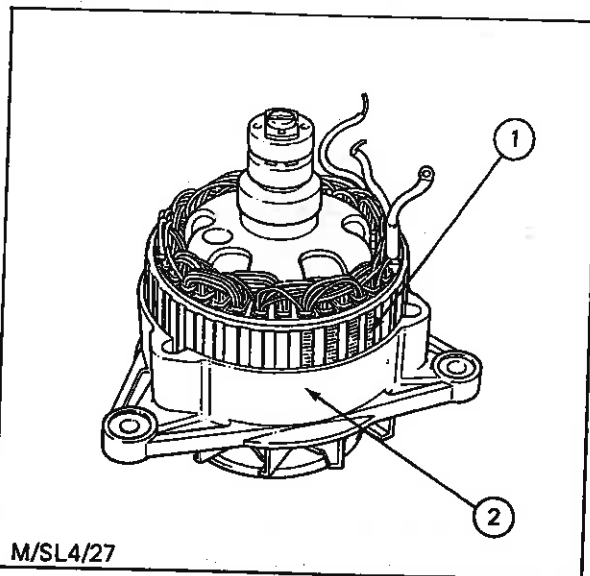

Fig. 43 - Replacing the Stator
3. Position the stator (1) on the drive end bracket (2) so that the lines scribed when dismantling align - see Fig. 43.